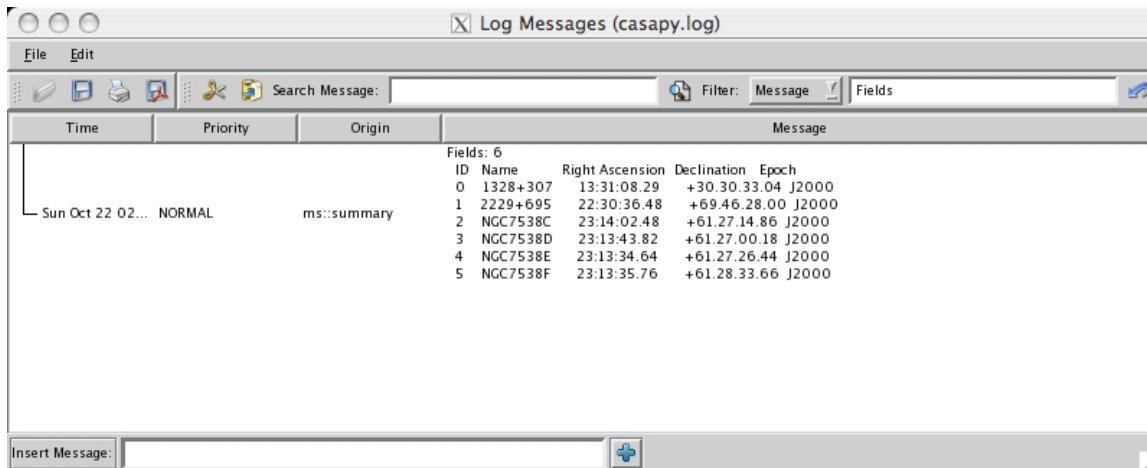

Figure 1.7: CASA Logger - Filter facility: The log output can be sorted by Priority, Time, Origin. One can also filter for a string found in the Message.
- **Filter** — a filter to sort by message priority, time, task/tool of origin, and message contents. Enter text in the Filter window and click the filter icon to the right of the window. Use the pull-down at the left of the Filter window to choose what to filter. The matching is for the exact text currently (no regular expressions). See Figure 1.7 for an example.